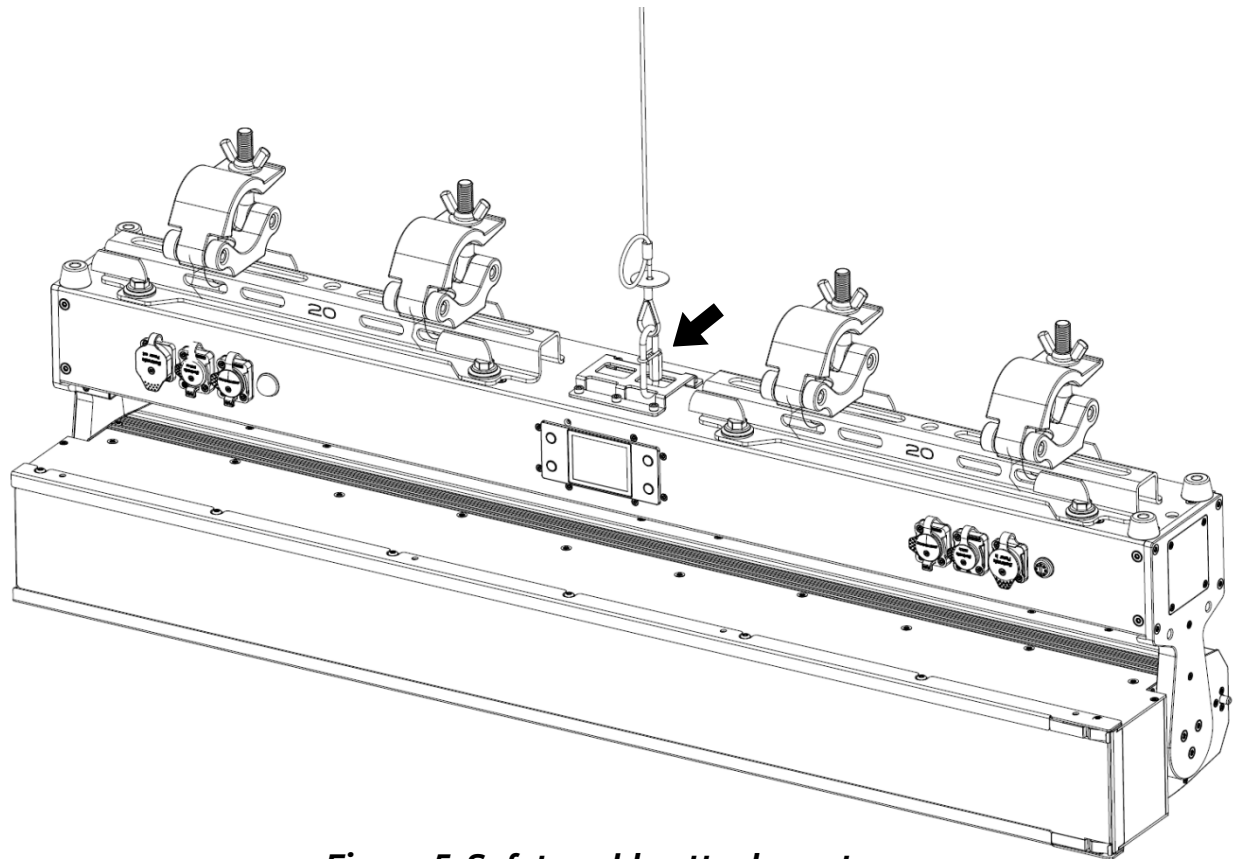

Figure 5. Safety cable attachment
- Second figure 5: Water jets – Protection against water projected from a 6.3mm (0.25 in.) nozzle from any direction.
3. See Figure 5 on the following page. Fasten the safety cable to the arrowed attachment points on the base of the unit.